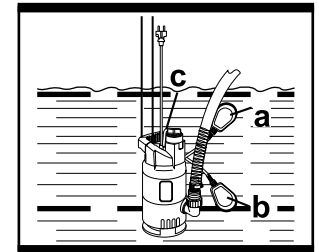

Fig. 3
1. Float switch. (See Fig. 3)
- (1). This product works with automatic interval operation. The float switch (6) swims on the surface of the water or alternatively under water. The product switches on or off according to position of the float switch (6). In this way, you can automatically control the water level e.g. in wells or containers.
- (2). The product is started at a certain water level by the float switch (6) (switch on level). (See Fig. 3, a).
- (3). The product continues pumping until the water level is lowered to a particular height and then the float switch (6) turns the product off (switch off level). (See Fig. 3, b).
- (4). Adjust the height of the relative switch on and off levels within certain parameters by lengthening or shortening the free cable length of the float switch cable (5). Simply fix the float switch cable (5) to the bracket (2). (See Fig. 3, c).